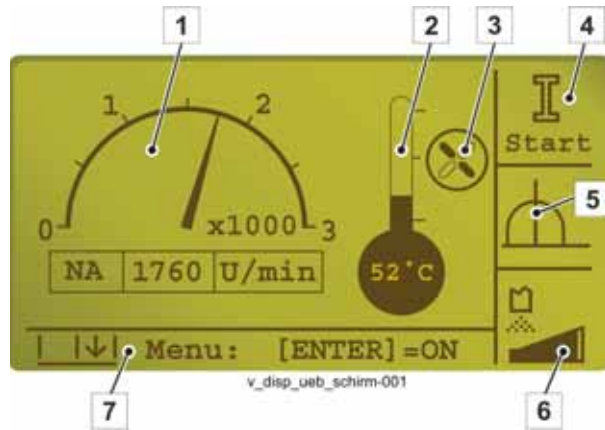

Fig. 82
A short acoustic signal confirms the release and field (4) (Fig. 82) shows this symbol.
Field (5) on the display (Fig. 82) shows this symbol.
While the "Pumping piston change" operating mode is active, the following symbols can be displayed in field (4) on the start screen (**Fig. 82**).